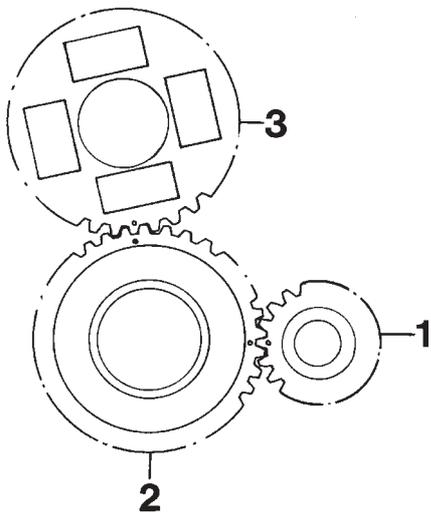
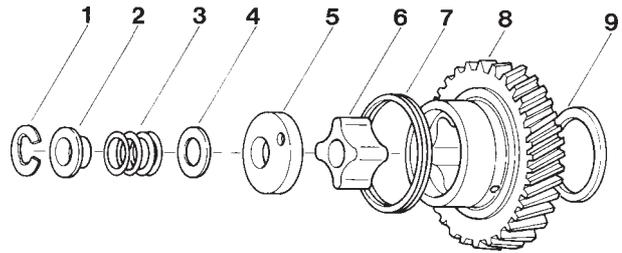
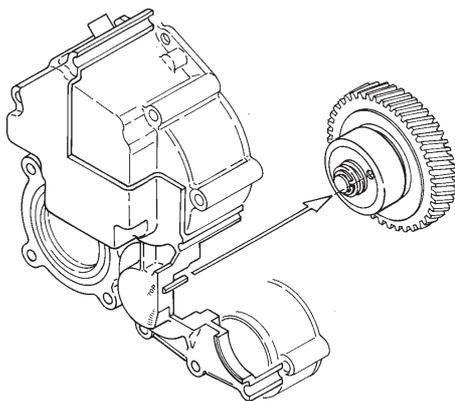

Fig. 61. Timing gears, basic setting
Fig. 62. Intermediate gear complete with oil pump
Fig. 64. Fitting of timing gear casing
Crankshaft gear – the intermediate gear is marked with a punch mark and the intermediate gear – camshaft gear with a circle opposite the tooth and tooth gap (Fig. 61).
3. Fit the thrust washer (9, Fig. 62) on the intermediate gear's shaft journal. Fit the intermediate gear as per the markings (Fig. 61).
4. Grease in the oil pump's inner rotor (6, Fig 62) and housing (outer rotor, 8).
Fit the inner rotor and cover to the oil pump. Fit the shims, spring, spring washer and lock washer as per Fig. 62.
Note: The hole in the cover should be in the position shown in Fig. 64 (which it should if the markings on the gear wheel coincide according to Fig. 61).